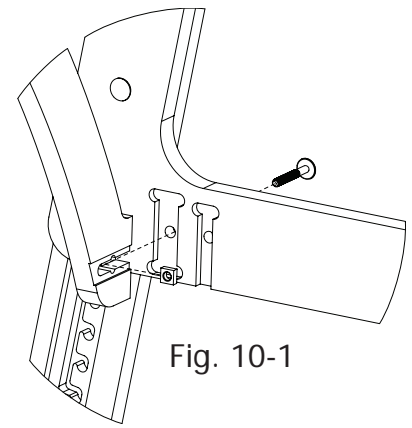

Fig. 10-1
Note: The head of the bolt should be on the side of the frame end that has notches cut in it. (See Fig. 10-1)
**Step 10-1:** Insert a square nut into the "T" slot in one end of each of the conduit braces. Fig. 10-1.